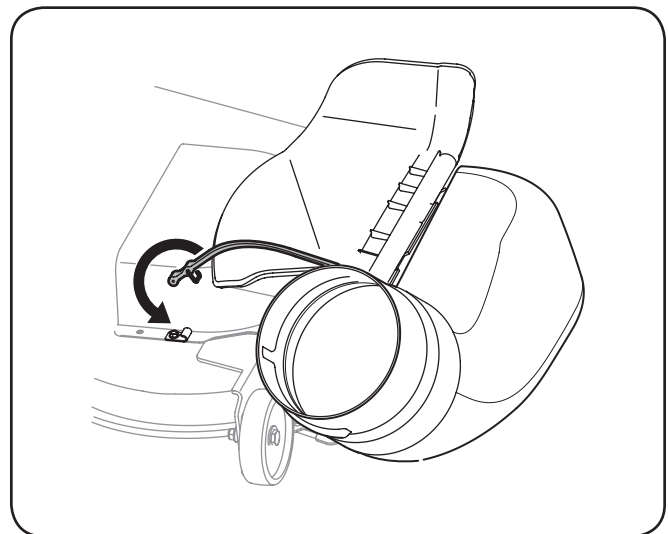

Figure 4-21
6. Attach the retainer strap on the discharge chute to the retainer clip on the deck. Refer to Fig. 4-21.